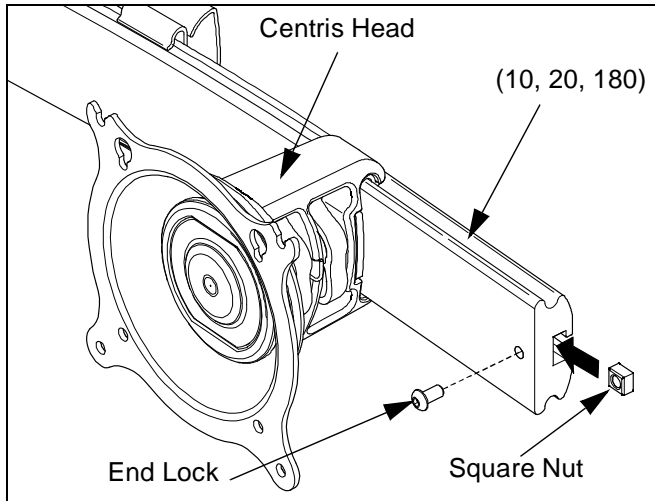

Figure 12: Reinstall End Lock(s)
8. Reinstall end locks into mounting rail using the 5/32" hex key (80) (see Figure 12).